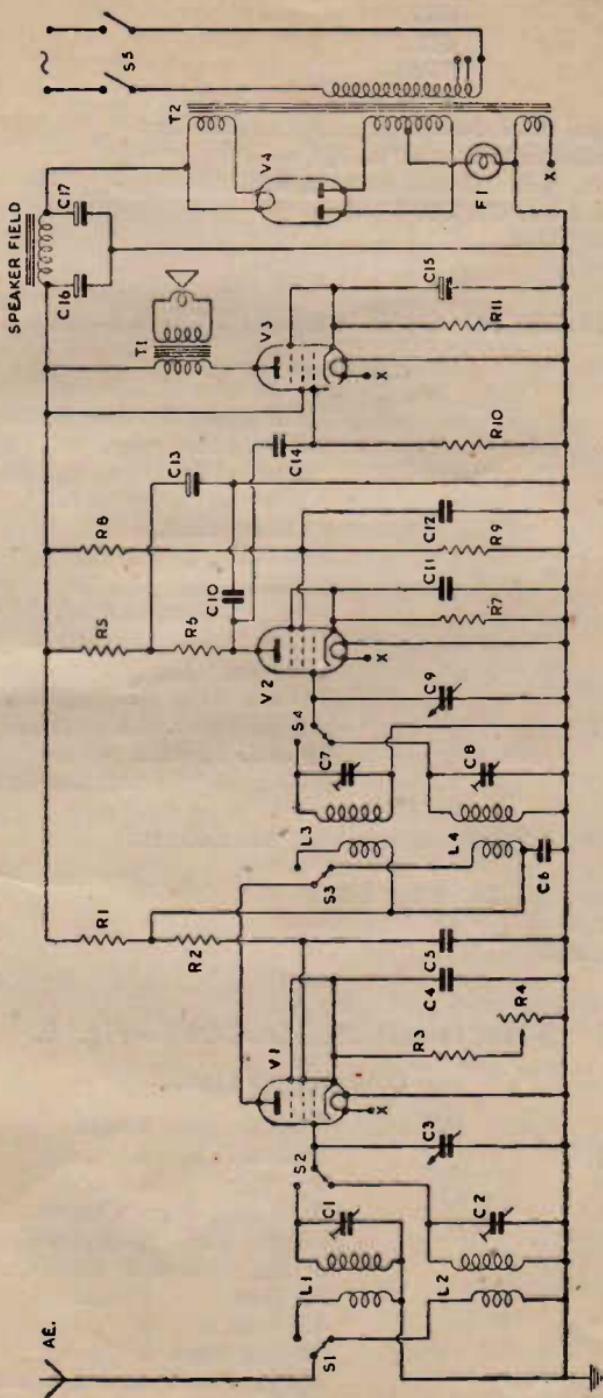

FIG. 4. A.C. T.R.F. Broadcast Receiver.
A.C. T.R.F. BROADCAST RECEIVER—Fig. 4.